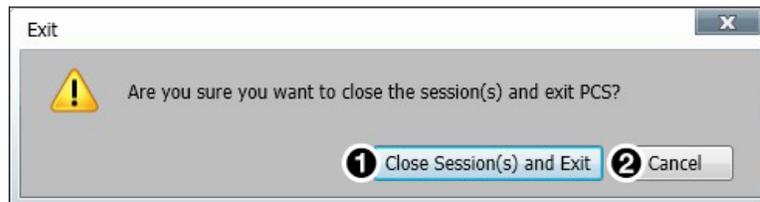

Figure 38. Exit Dialog Box
1. From the **Software** menu, select **Exit**. If device tabs are open, the **Exit** dialog box opens (see figure 38).